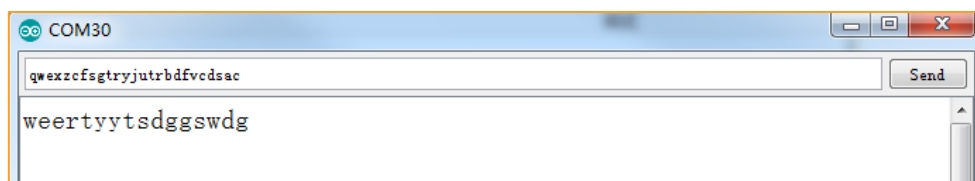
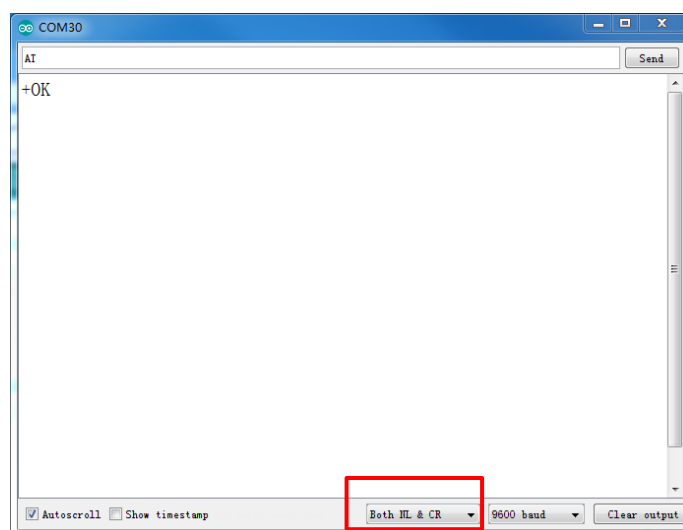

Figure 1.20
Figure 1.21
- 6) As shown in figure 1.20, we can input the content we want to Send on the serial monitor, and then click "Send" to Send the data to the mobile APP via bluetooth, as shown in figure 1.21.